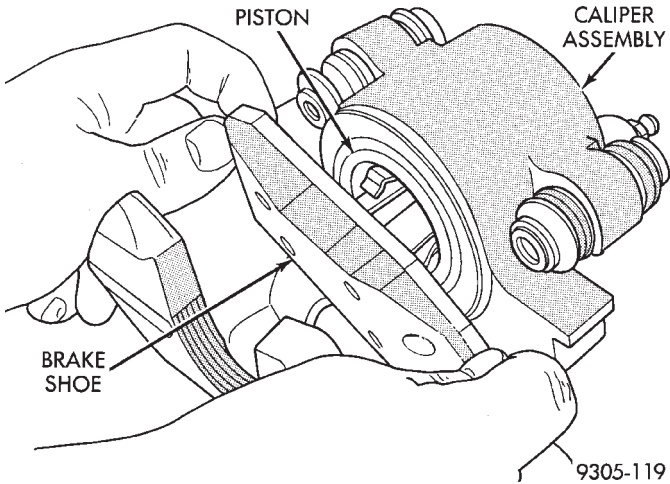

Fig. 59 Installing Inboard Brake Shoe
(12) Remove the hub and bearing assembly from the steering knuckle (Fig. 59).